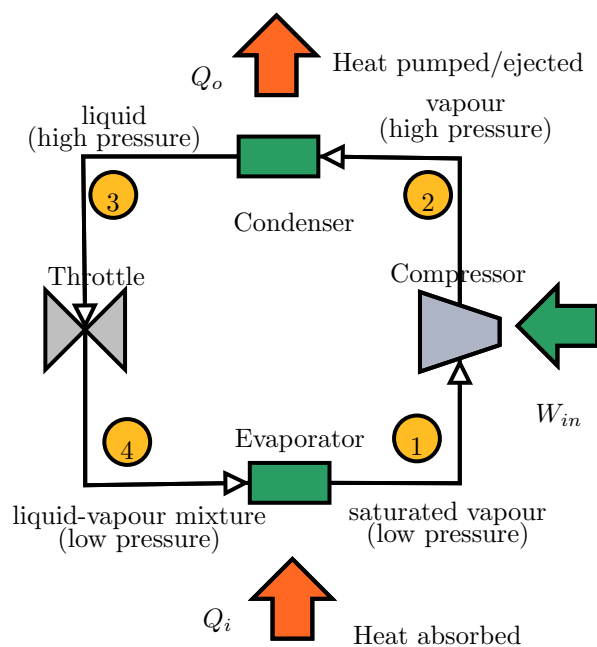

Figure 1: Refrigeration cycle
**Refrigeration cycle** Referring to Figure 1, we can identify four processes which yield four equations: